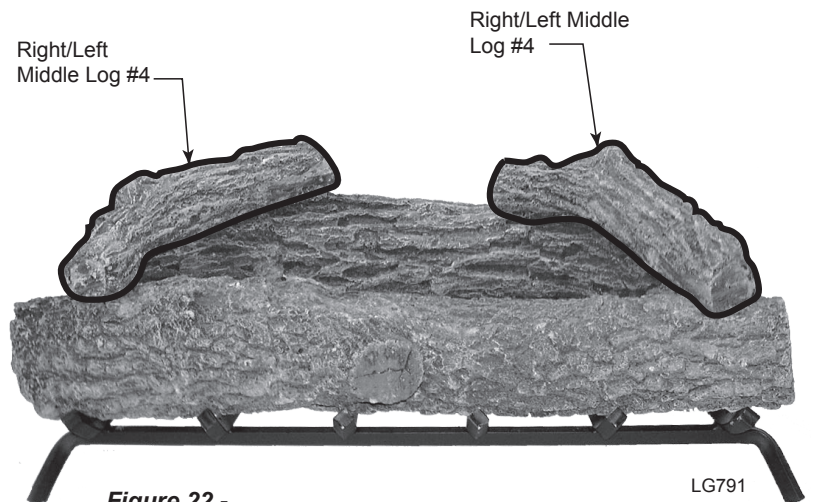

Figure 22 - Place Two (2) Right/Left Middle Logs #4
3. Place Right/Left Middle Log #4 on top right of Log #1 and Log #2. *Figure 22*
4. Place Right/Left Middle Log #4 on top left of Log #1 and Log #2. *Figure 22*